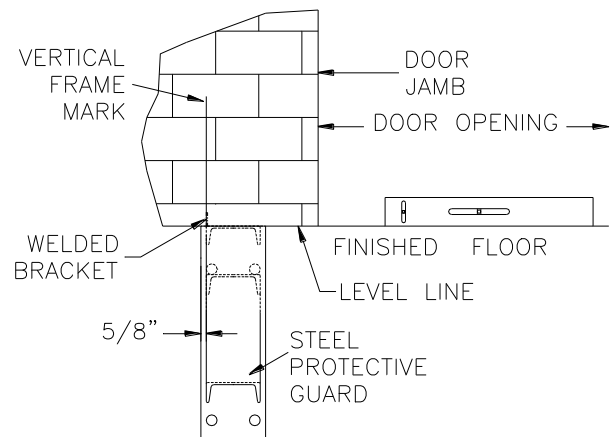

FIG. 3B
- * Determine left and right Protective Guards. The welded bracket goes to the side farthest away from door opening (Figure 3b).